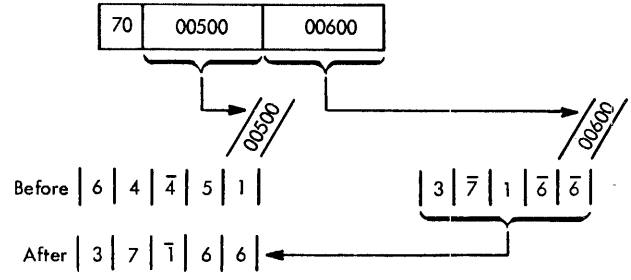

Figure 64. Move Address
*Description.* The Move Address instruction causes the five digits specified by the Q address of the instruction to be moved to the P address (Figure 64). Flags in the P field remain unchanged.